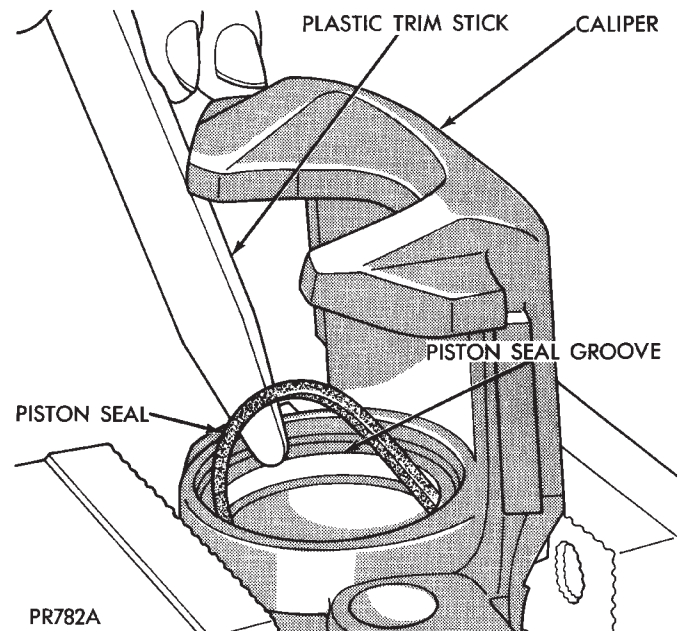

Fig. 2 Removing Piston Seal
(7) Using a plastic trim stick, work piston seal out of its groove in caliper piston bore (Fig. 2). Discard old seal. **Do not use a screwdriver or other metal tool for this operation, because of the possibility of scratching piston bore or burring edges of seal groove.**